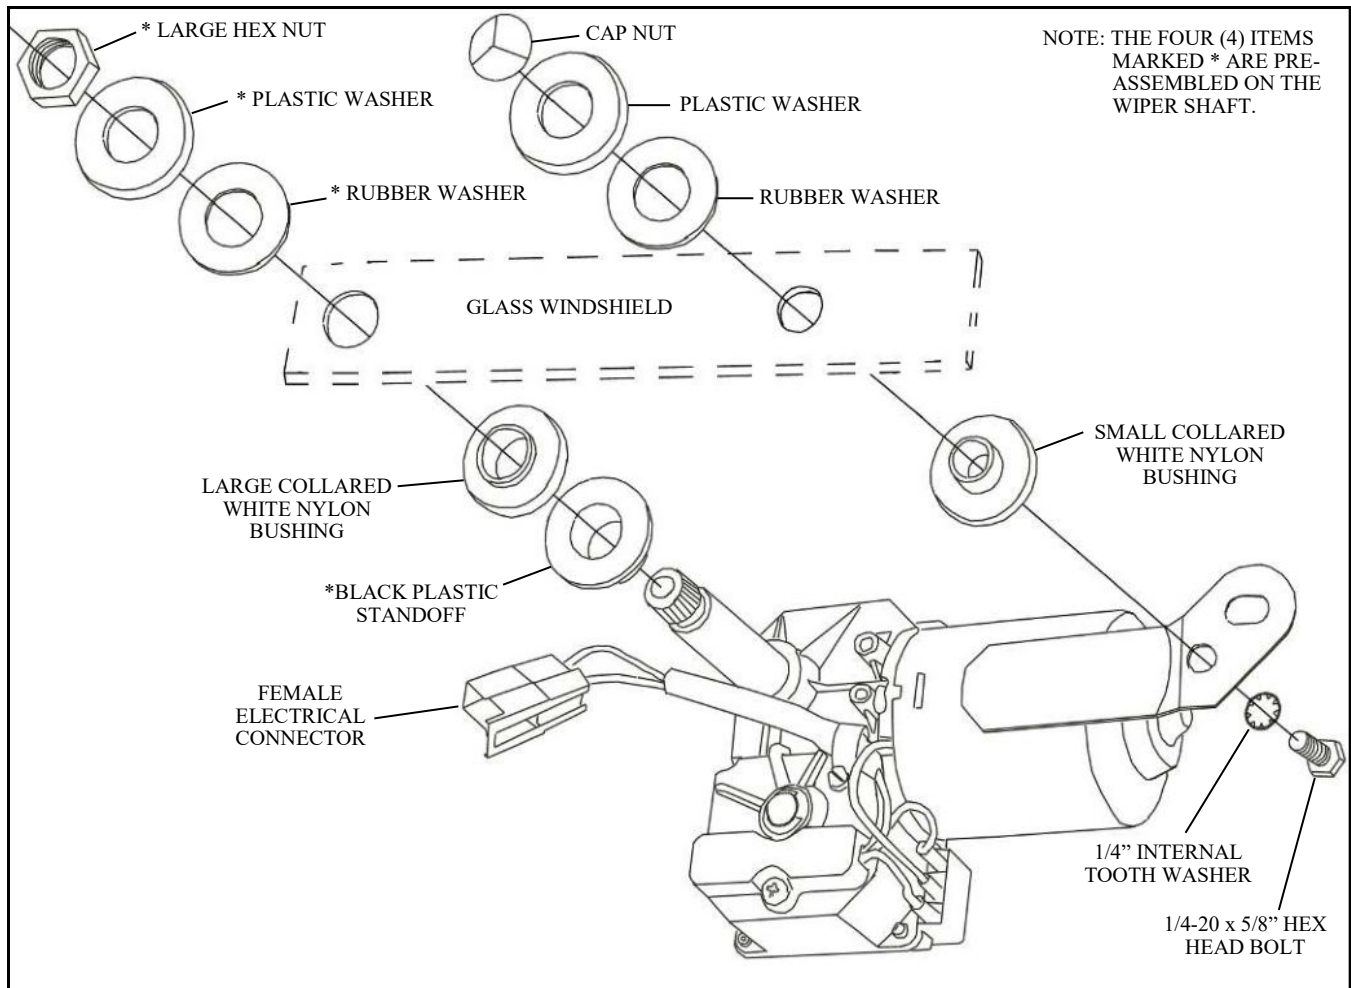

Figure 14.1: Wiper Motor Installation
- 14.1 Remove the large hex nut, plastic washer, and rubber washer from the motor shaft making sure to leave the black plastic standoff on the motor shaft. Put the large white nylon bushing with the collar over the shaft as shown in Fig.14.1.